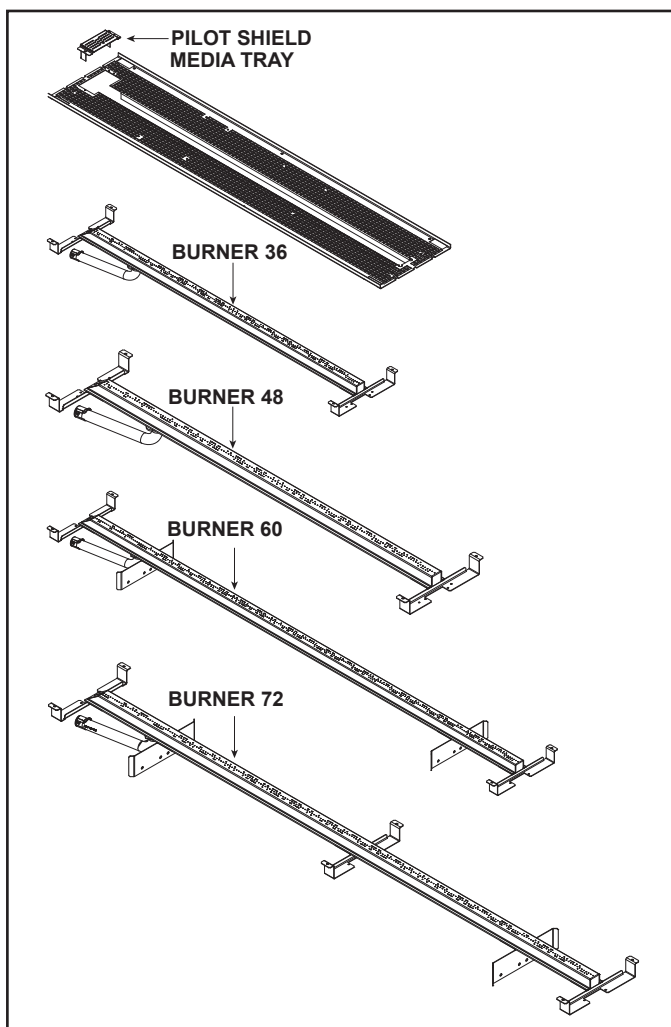

Figure 9.3 Media Tray with Burner and Pilot Shield
7. Remove the media tray. It is attached to the interior firebox bottom with eight screws. See Figure 9.3.
9. Remove the four screws securing the burner to the firebox sides and disengage burner from orifice. Remove burner. See Figure 9.3.